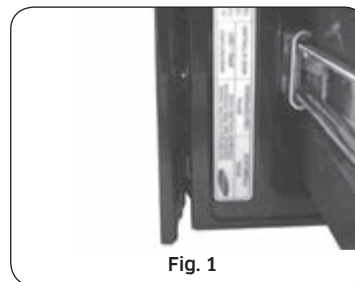
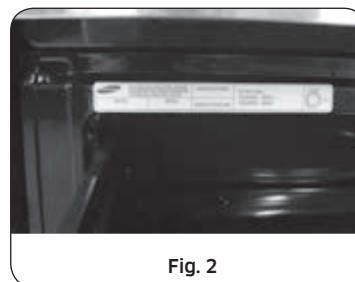

Fig. 1
Fig. 2
This appliance must be supplied with the proper voltage and frequency, and connected to an individual properly grounded branch circuit, protected by a circuit breaker or fuse having amperage as specified on the rating plate. The rating plate is located above the drawer on the oven frame. **(Fig. 1 or Fig. 2)**
2. Install the conduit cord as shown in Figure 2.